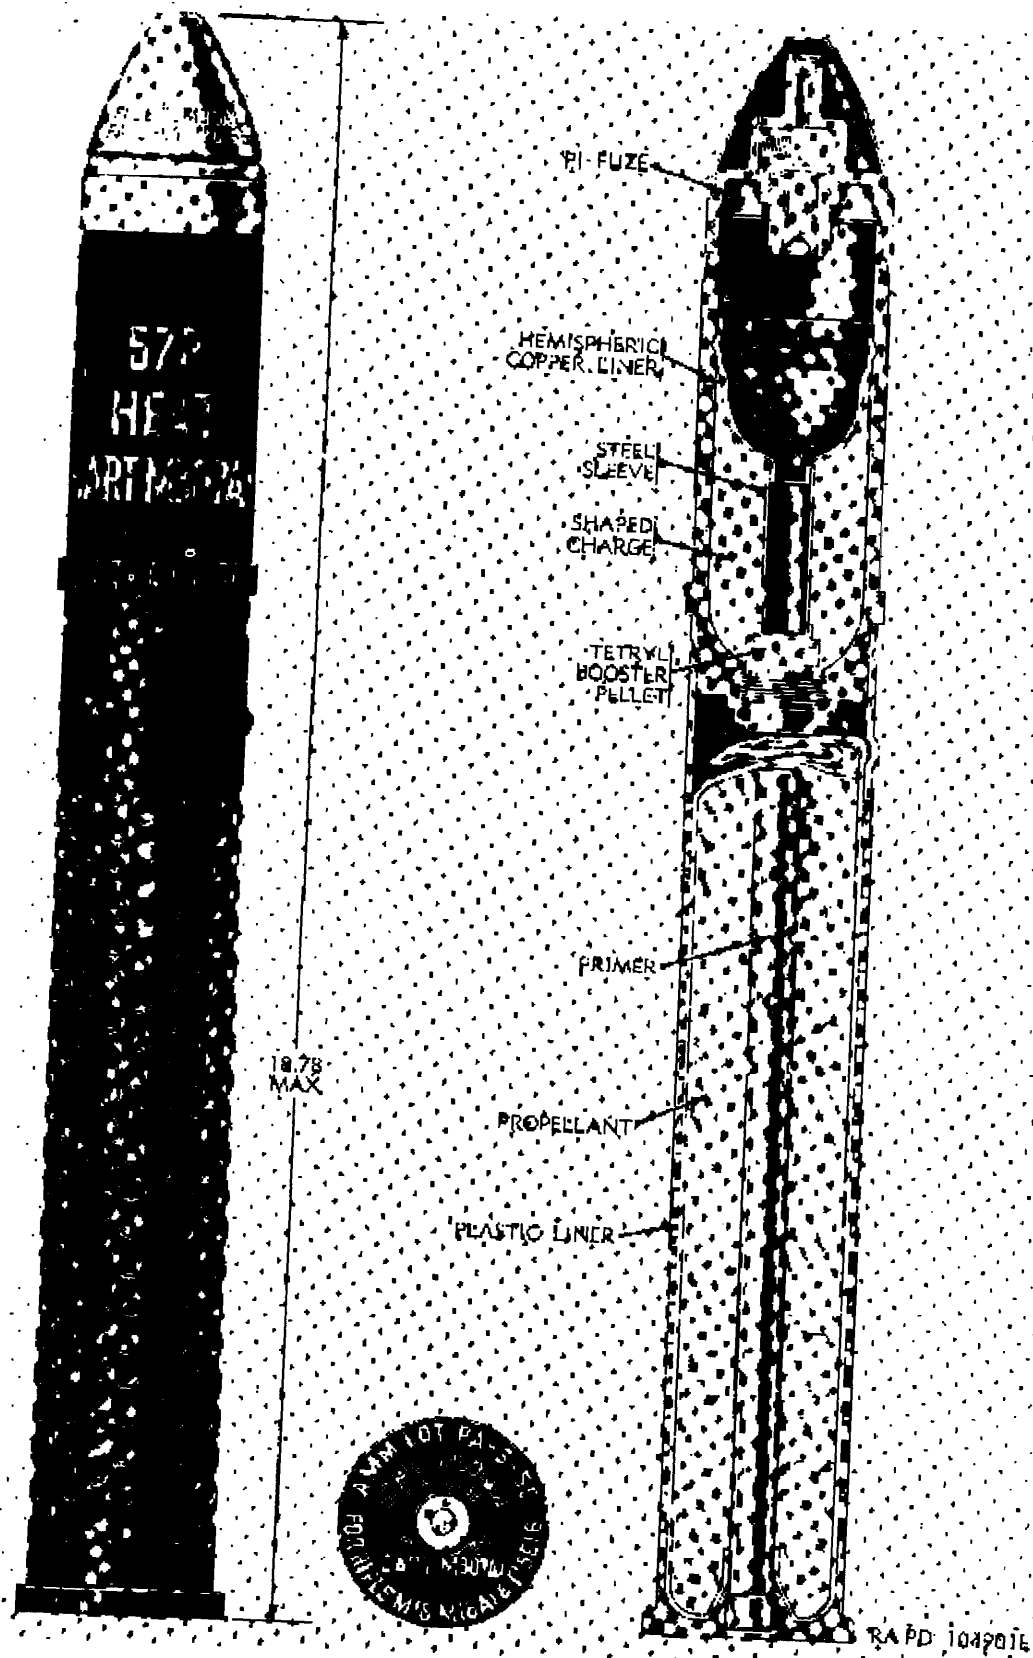

Figure 8. Cartridge, 57 millimeter: HE, AT, M307A1, w/ fuze, PI, M90 or M90A1 (color).
*a.* This cartridge (fig. 8) is intended for use in target practice. The components comprising this cartridge are the same as those used in the high-explosive cartridge described in paragraph 16, except for filler. The TP projectile M306A1 differs from the HE projectile M306A1 only in the filler, which is 0.448 pound of inert material and a 0.07-pound black powder pellet to serve as a spotting charge. Ballistically, the TP projectile matches the HE projectile.